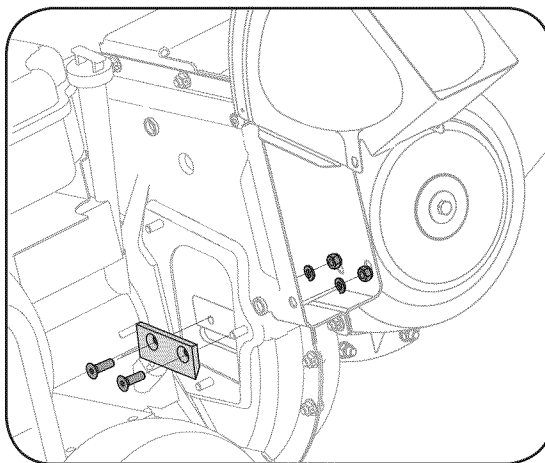

Figure 13
- Remove the blade by removing the internal hex screws, lock washers, and hex nuts which secure it to the impeller. Retain the hardware. See Figure 13.